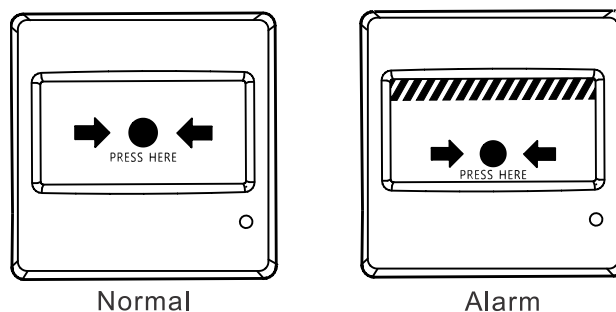

Fig. 1 Changes on the panel
- Direct alarm activation by pushing the operation panel. The panel's position shifts to show activated state. See Fig. 1. The alarm LED lights up.